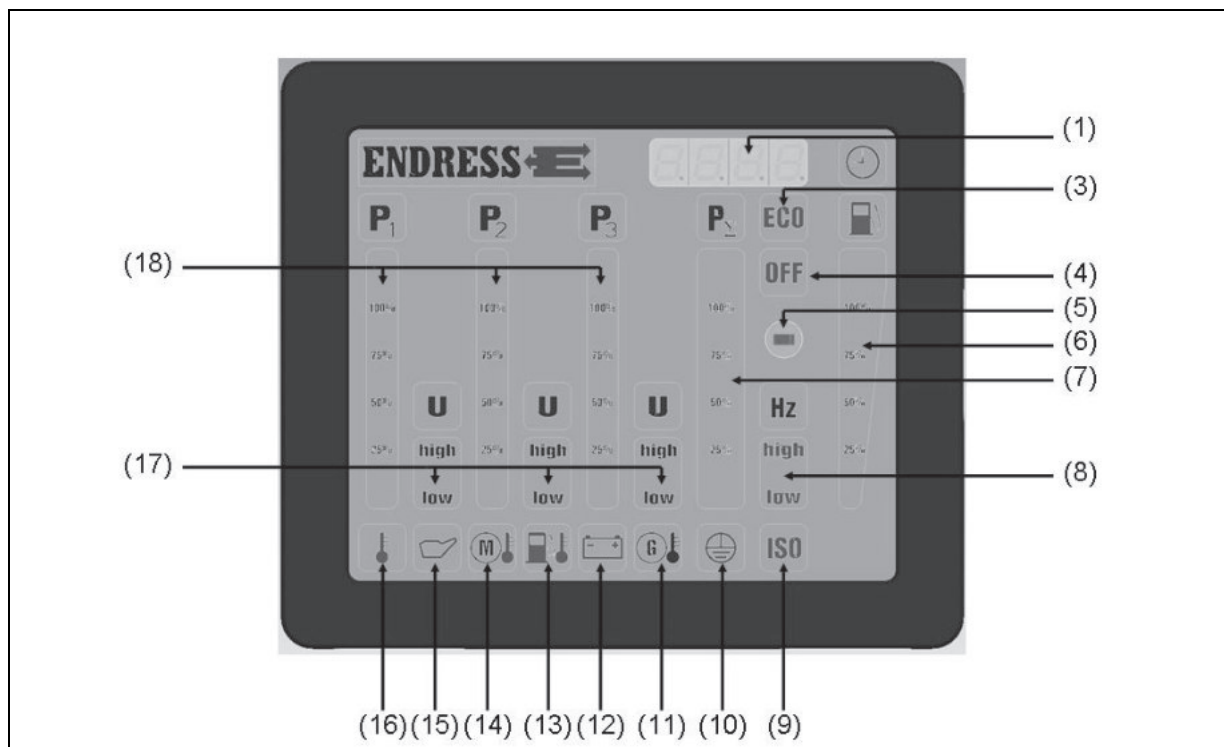

Figure 4-5: Multi-functional display
**Fuel tank filling level:** The display (see Figure 4-5-(6)) gives a rough indication of the contents of tank.
**Relative load indicator:** Load ( $P_{\Sigma}$ ) (see Figure 4-5-(7))
- ✓ The switch position displays the result (see Figure 4-5-(9)):